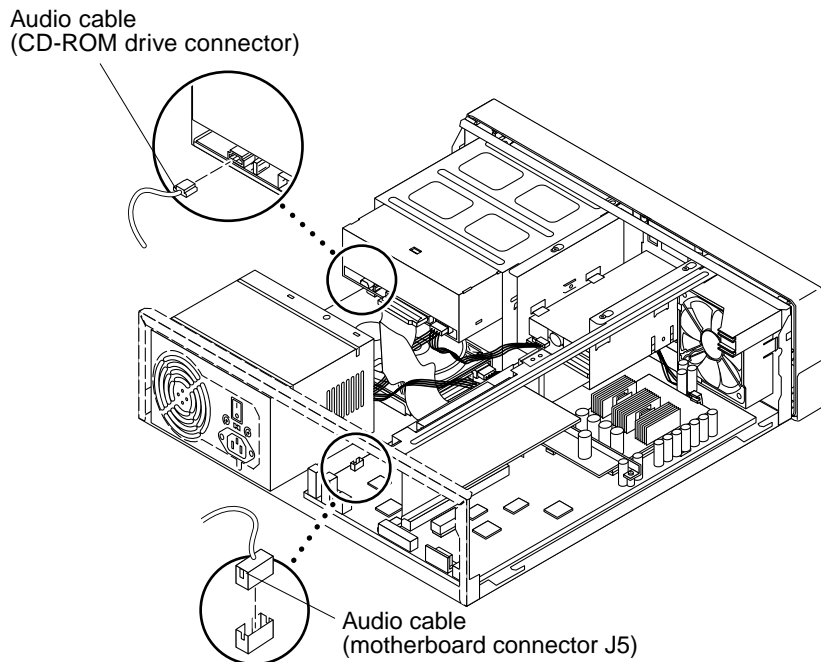

FIGURE 6-5 Removing and Replacing the Audio Cable
- a. Remove the audio cable assembly connectors from the following (FIGURE 6-5):
1. **Replace the audio cable assembly as follows (FIGURE 6-5):**